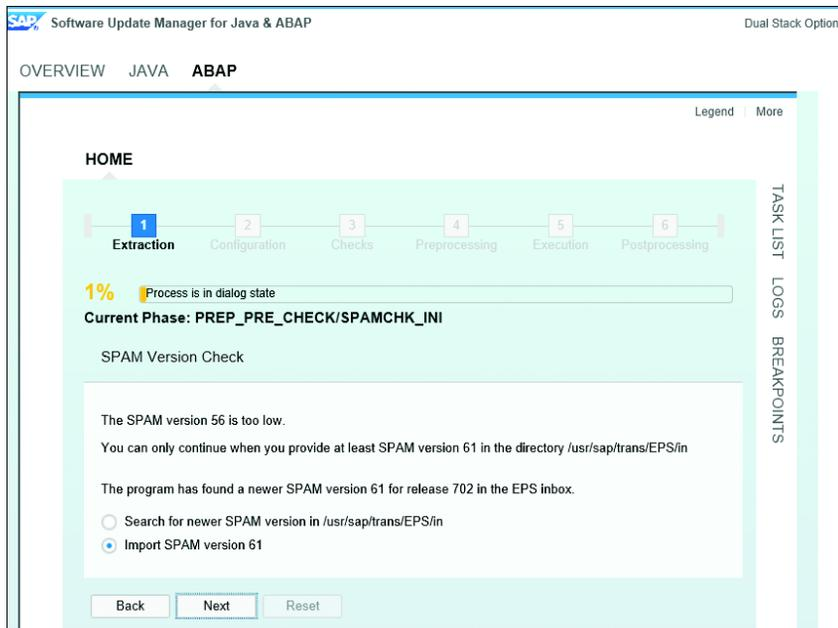

Figure 43 Confirm the Patching of SPAM
8. When requested, confirm the option to import the latest patch for SPAM that was downloaded with the Maintenance Planner transaction (see Figure 43).